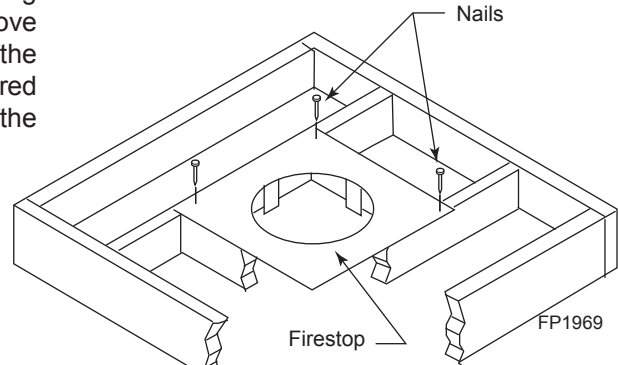
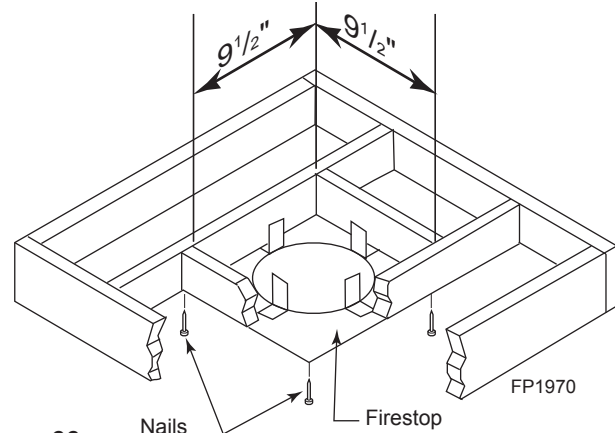

Figure 32 -
Figure 33 -
1. Cut a 9½" (241 mm) square hole in the ceiling using the locating hole as a center point. The opening should be framed to 9½" x 9½" (241 x 241 mm) inside dimensions as shown in Figure 32 using framing lumber the same size as the ceiling joist. If the area above the ceiling is an insulated ceiling or a room, nail firestop from the top side. This prevents loose insulation from falling into the required clearance space. Figure 32. Otherwise, install firestop below the framed hole. Figure 33. Otherwise, install firestop below the framed hole.